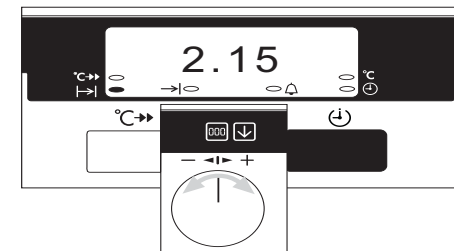

Fig.7
- iv) To set the length of cooking time, press the Time Selector button until the 'Cook Time' indicator neon is illuminated (). Turn the main oven increase/decrease selector () until the required length of cooking time is displayed, e.g. 2 hrs 15 mins as Fig. 7.